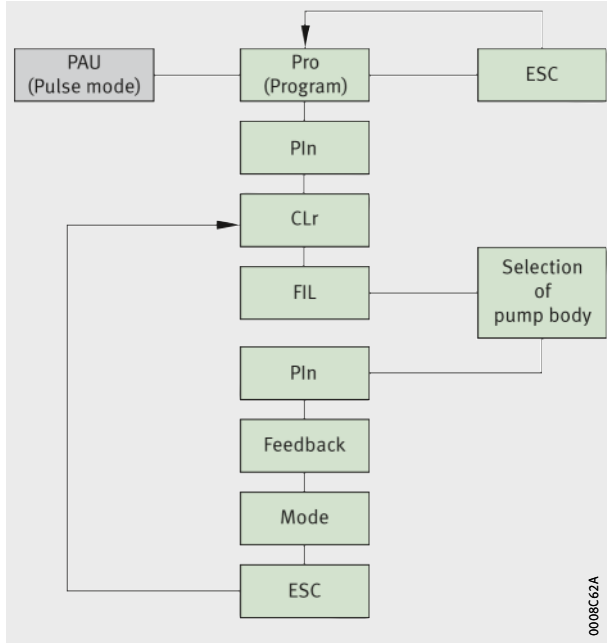

Figure 17
- pulse control by means of connection to an external controller, *Figure 17*, page 28.